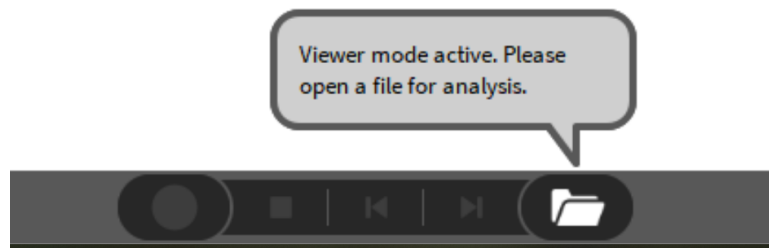

Fig. 3.22: OXYGEN Viewer notice
- If a datafile is opened in Viewer Mode and ejected again (see ② in Fig. 3.18), a notice appears above the Action Bar shown in Fig. 3.22. Another datafile can be opened to analyze and review.